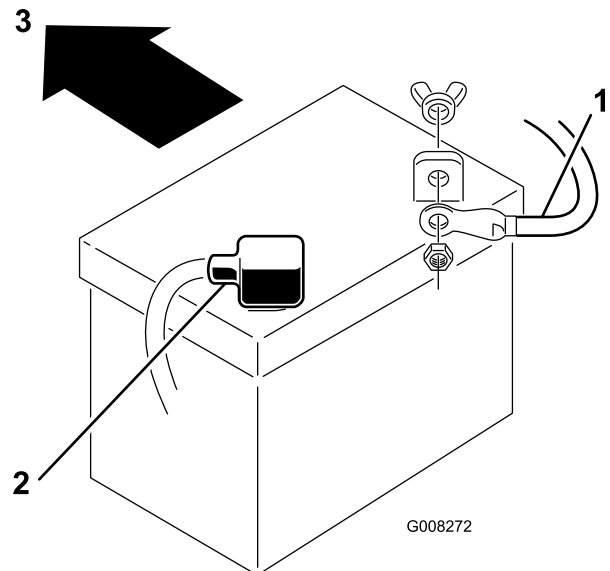

Figure 30
7. Disconnect the negative (black) ground cable from the battery post (Figure 30).
9. Disconnect the positive (red) cable from the battery post (Figure 30).
1. Place the battery into the chassis with the battery posts toward the rear of the machine (Figure 30).
3. Using the bolt and wing nut, connect the positive (red) cable to the positive (+) battery post (Figure 30). Slide the rubber cover over the battery post.
4. Using the bolt and wing nut, connect the negative (black) cable to the negative (-) battery post (Figure 30). Slide the rubber cover over the battery post.